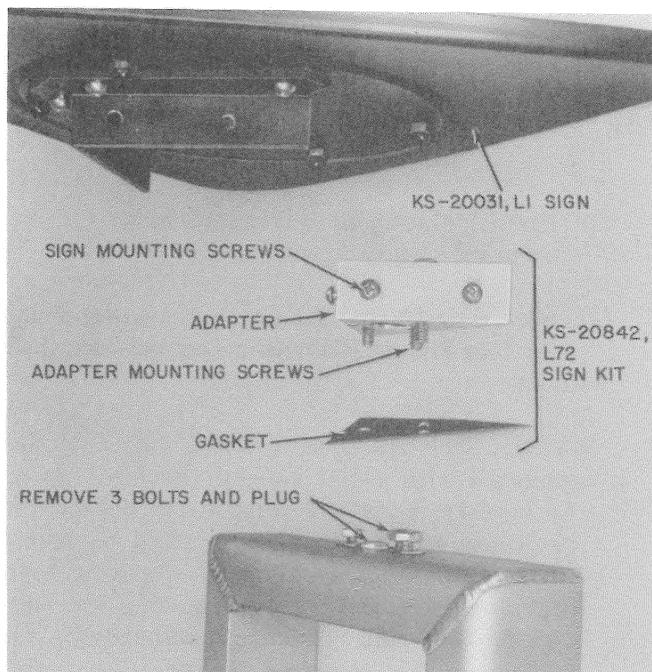

Fig. 29.1—Installation of KS-20031, List 1 Sign
2.29.1 A KS-20842, List 72 sign kit is available to provide a means of installing a KS-20031, List 1 illuminated sign on top of the KS-20842, List 70 mast Fig. 29.1 and 29.2.
- (1) Remove the three bolts and plug from top of mast (Fig. 29.1).